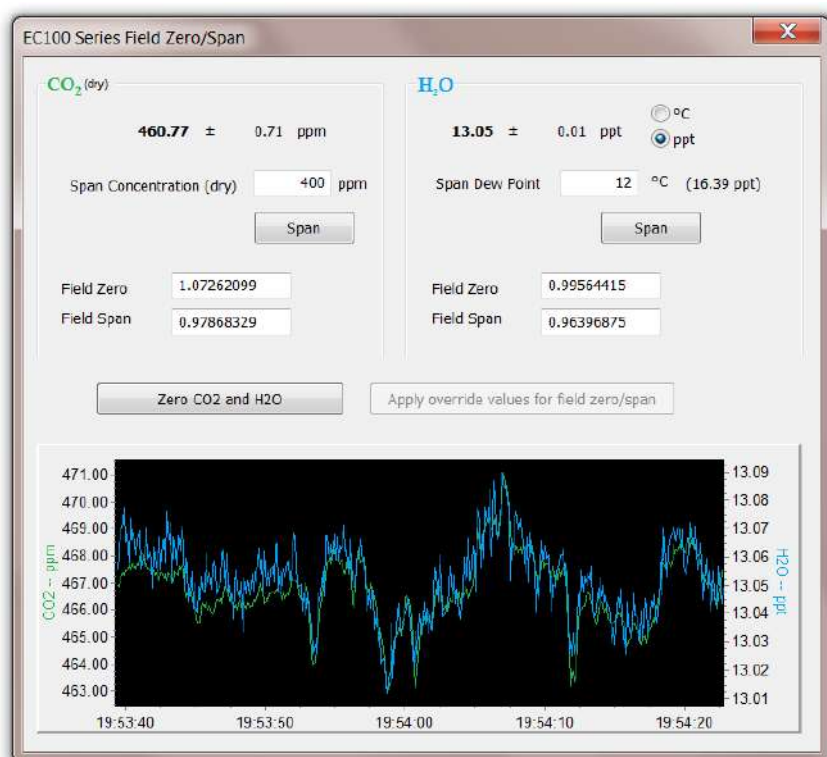

FIGURE 9-5. *ECMon* zero-and-span window
7. Launch *ECMon*, select the appropriate USB port, and click **Connect**. The main screen should now be reporting real-time CO2 and H2O concentrations. Click **Zero/Span**. A graph will appear in the lower half of the zero-and-span window showing measured CO2 and H2O concentrations (see FIGURE 9-5).